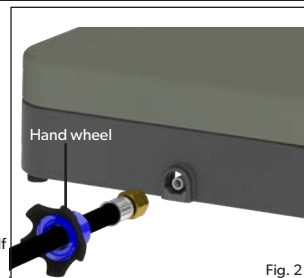

Fig. 2
- Fit an approved hose and regulator to the appliance (See Fig. 2).